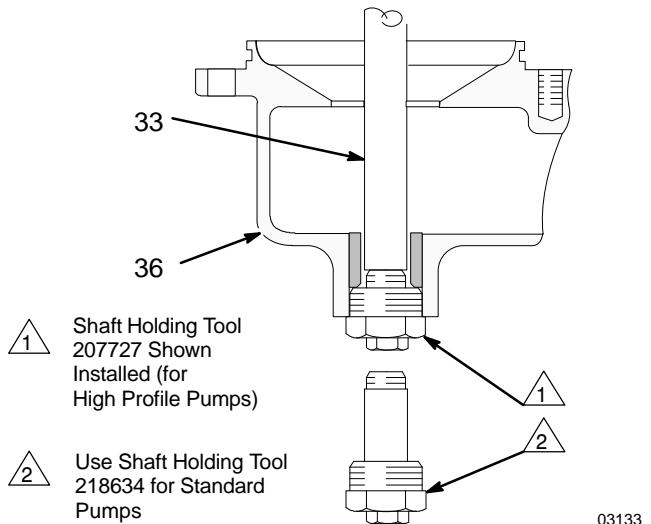

Fig. 14
- 8. Slide the shaft (33) into the bearing in the intake bowl (36a) and lock it in place with the shaft holding tool. See Fig. 14.